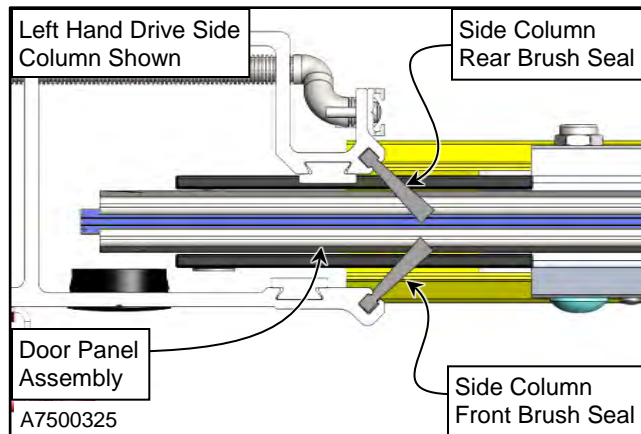

Figure 29
There are brush seals on the front & rear side of the door panel in the side columns as well as a brush seal between the door and the wall along the door's top lintel. (See Figure 28 & Figure 29)
1. Inspect the weather seals in both side columns. Check for wear and tear, and check for a good, tight fit between the door panel and the seal. Replace if necessary. (See Figure 29)
2. Inspect all weather seals to confirm they are properly positioned. (See Figure 29)